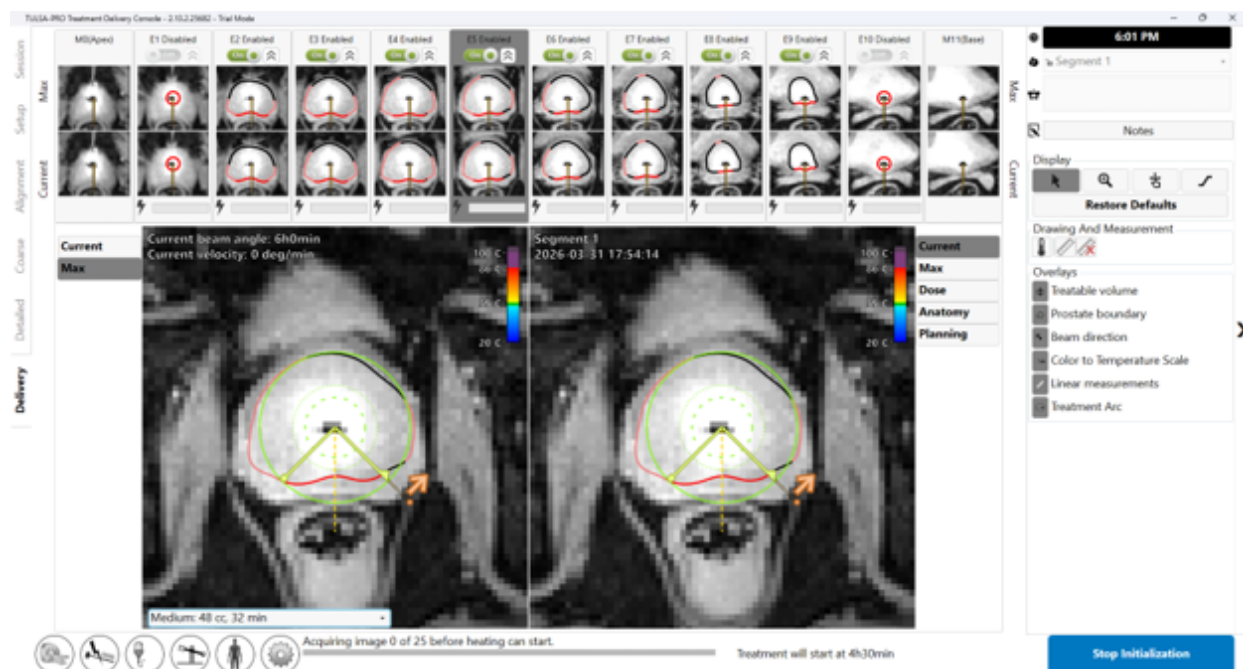

Figure 48: Treatment Initialization state
receive thermometry images (*Figure 48*). Ask the MR technologist to run AX THERM.
2. **Radiologist:** Click **Start treatment** on TDC. It will prompt you to verify the core body temperature using an external temperature measurement device before proceeding. Enter the temperature in degrees Celsius and click **Confirm**. The TDC will go into **Treatment Initialization** state and will start the thermometry scan on the MR console (*Figure 48*).